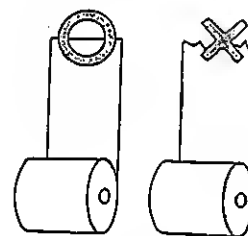

Fig. 1
- 2) Cut the paper end to make it sharp. (Fig. 1)